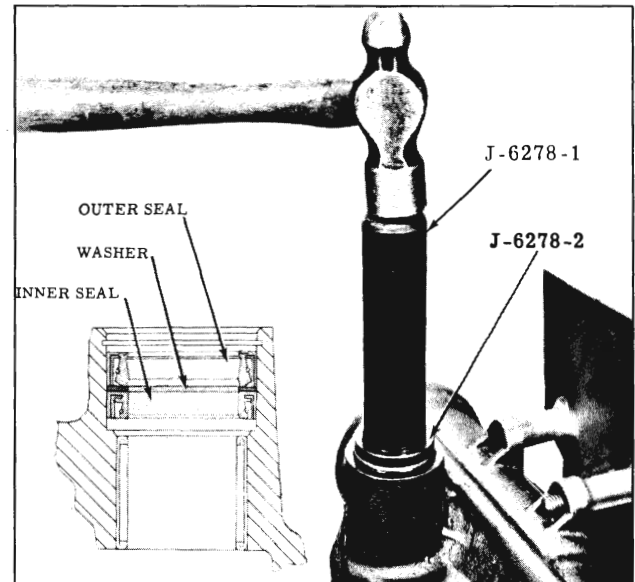

Fig. 4-63 Installing Oil Seals
top of Adaptor J-6278-2 is flush with the housing. (Fig. 4-63)
- d. Reinsert Tool J-6278-1 with Adaptor J-6278-2 and continue driving the seals until the retaining ring seats in its groove (Inset, Fig. 4-63), then remove the tool and adaptor.